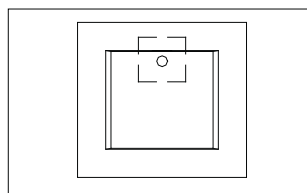

Figure 2
3. Place the lavatory on the support surface/countertop, ensuring the waste pipe is in a clear position and the lavatory in the desired spot. (Figure 2)